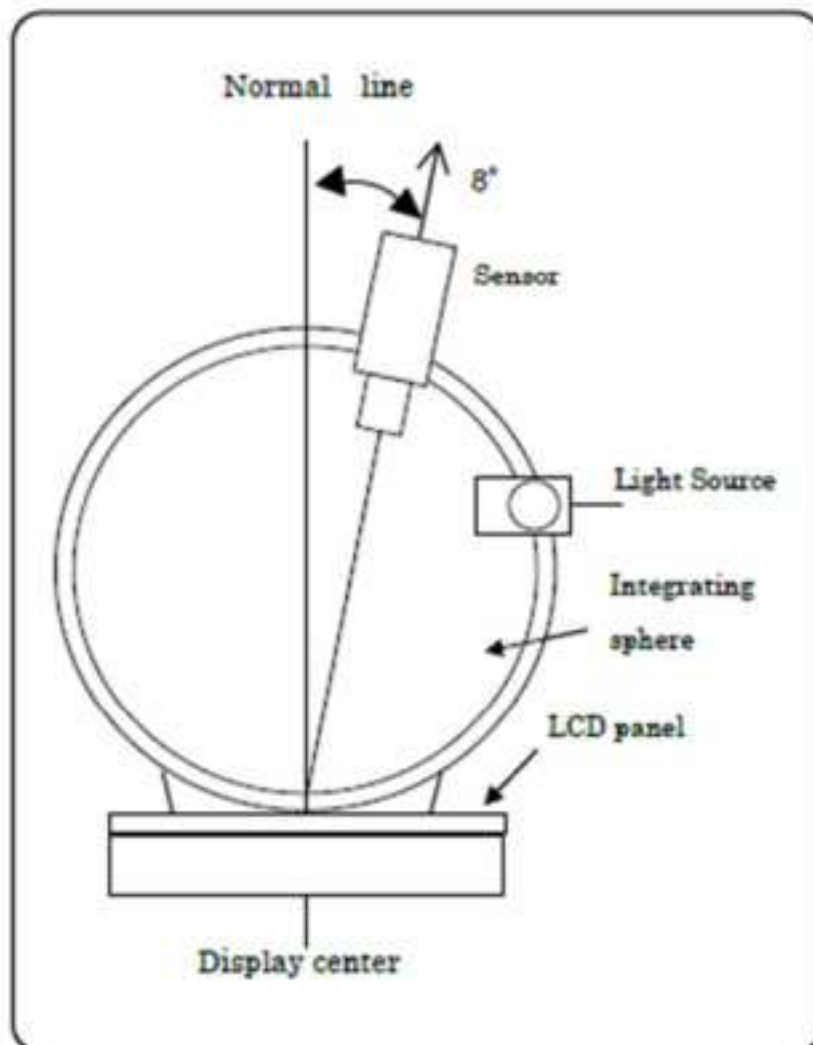
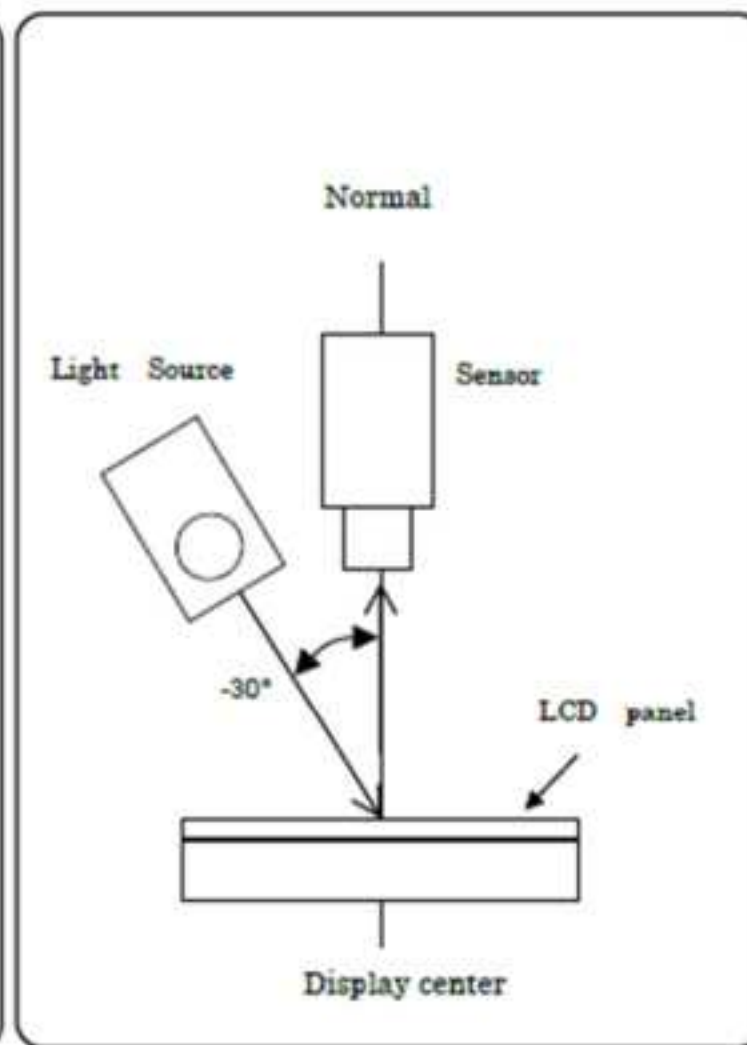

Figure 7-2 Contrast ratio, Reflection ratio,
Figure 7-3 Response time
• Figure 7-2 is for contrast ratio, reflectivity ratio, and panel chromaticity measurement, and Figure 7-3 is for response time measurement. Both are to be conducted in a dark or room equipment to a dark room